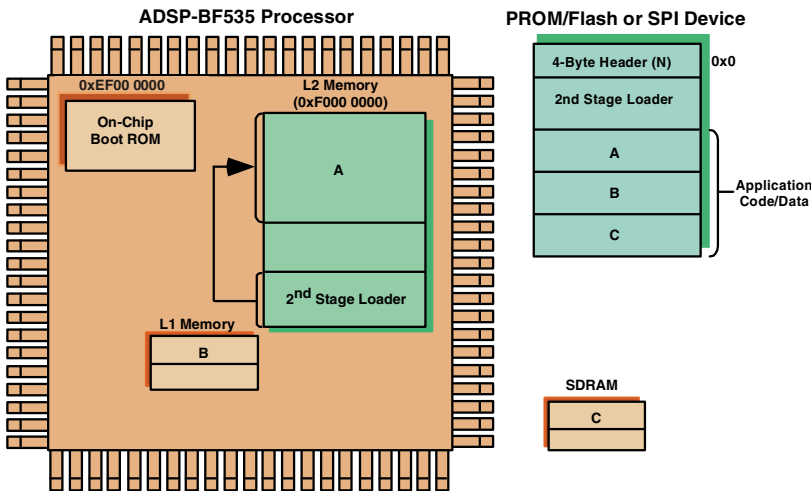

Figure 3-12. ADSP-BF535 Processors: Starting Application Code
4. Finally, after booting, the second-stage loader jumps to the start of L2 memory (0xF000 0000) for application code execution (Figure 3-12).